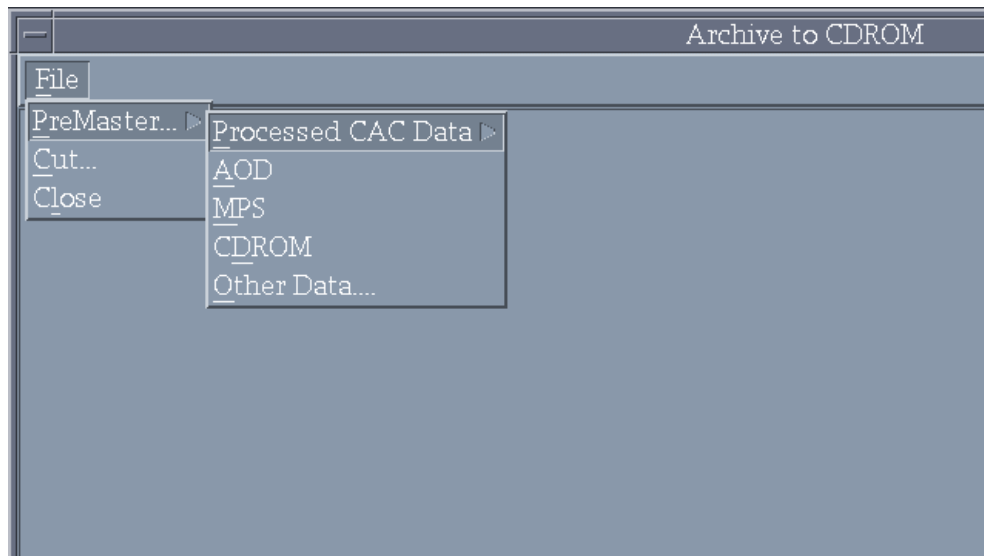

Fig. 9 – Archive to CDROM window
- b. From the **Archive to CDROM** window, click on *File*, then click *PreMaster* (Fig. 9), and then click *Processed CAC Data*. Select the map scale *JNC(1:2M)*.
- f. From the **Archive to CDROM** window, click on *File*, and then *Cut* (Fig. 9).
- j. From the **Archive to CDROM** window, click on *File*, and then *Close* (Fig. 9).
- ii. From the **Archive to CDROM** window, click on *File*, then click *PreMaster* (Fig. 9), and then click *Processed CAC Data*. Select the map scale *TPC (1:500k)*.
- vi. From the **Archive to CDROM** window, click on *File*, and then *Cut* (Fig. 9).
- x. From the **Archive to CDROM** window, click on *File*, and then *Close* (Fig. 9).
- ii. From the **Archive to CDROM** window, click on *File*, then click *PreMaster* (Fig. 9), and then click *AOD*.